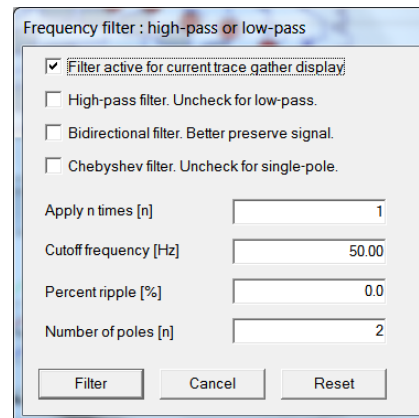

Fig. 14 : Trace|Shot gather ALT+Q Lowpass
- press ALT+Q and edit low-pass filter as in Fig. 14